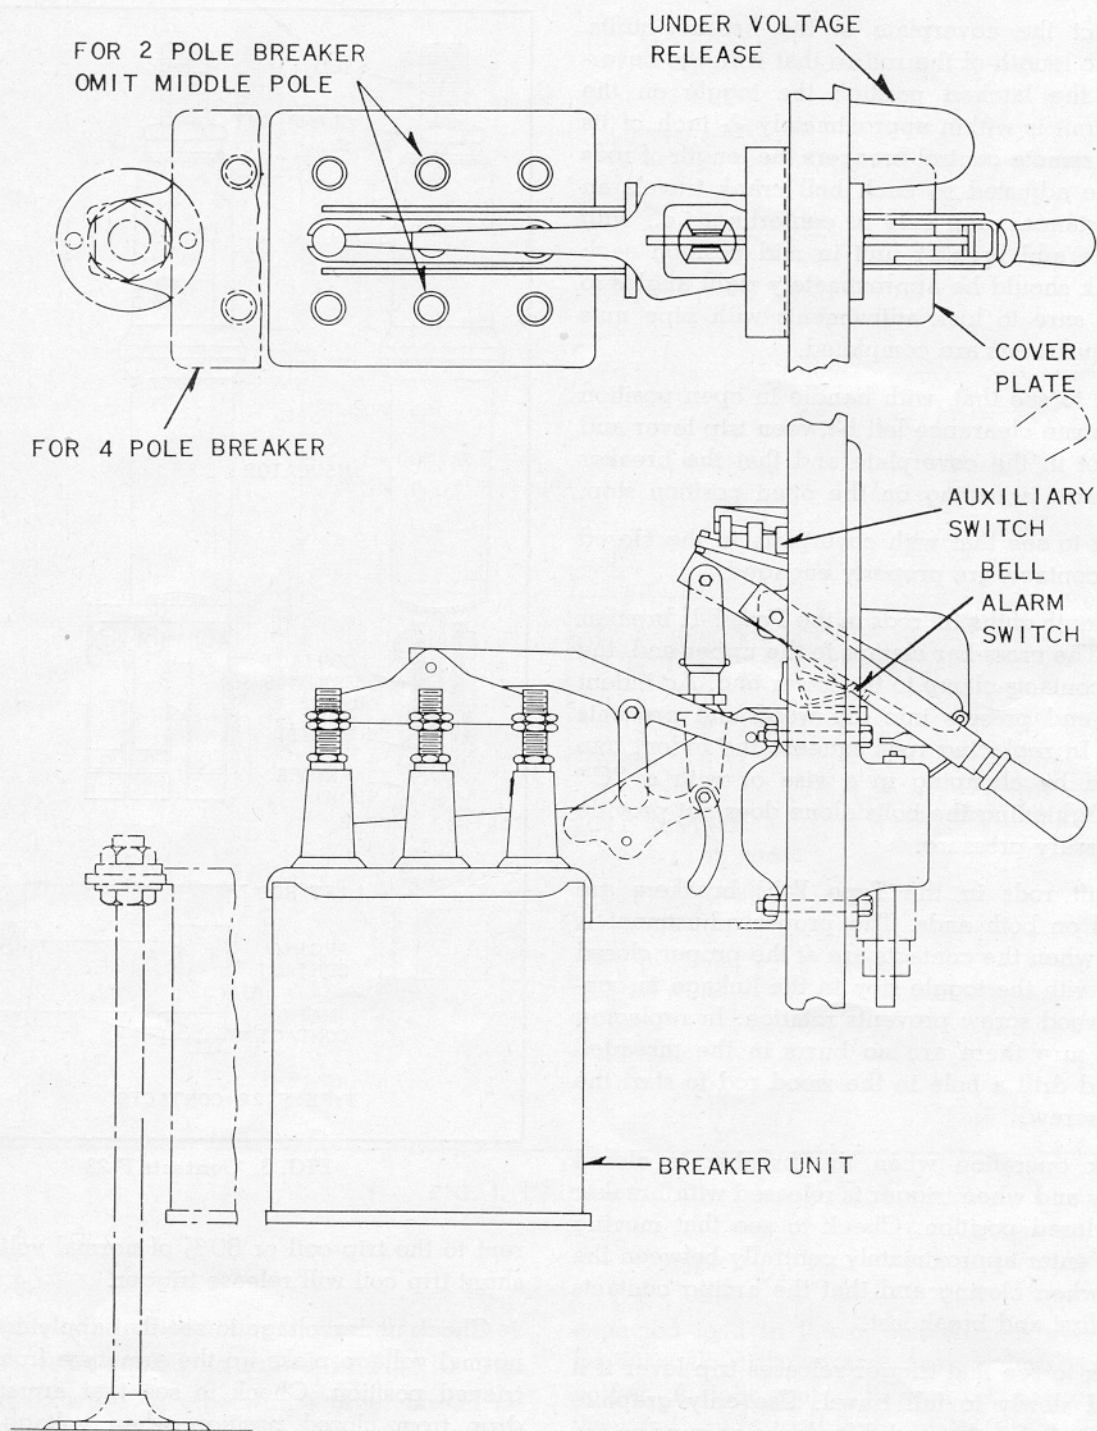

FIG. 6. Switchboard Mounting Assembly
5. If breaker unit is to be mounted in back of switchboard assemble with coverplate. (See Fig. 6)